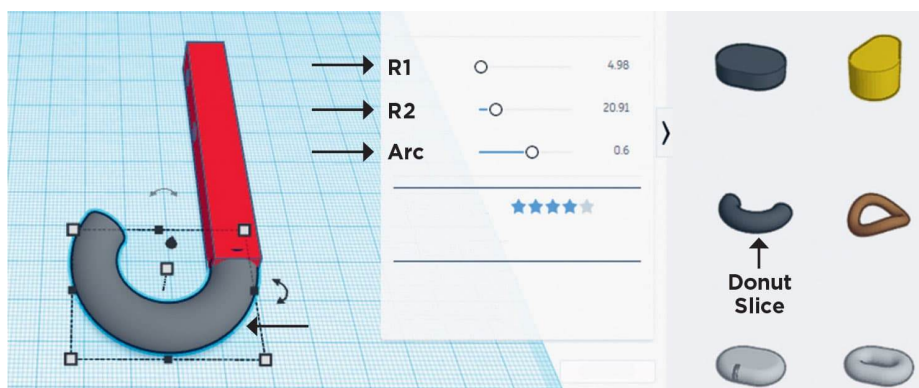

FIG. 2: The donut slice makes the curved section of the hook.
2. Drag a **Donut Slice** onto the workplane (fig. 2). The donut slice tool can be found through the **Shape Generator** drop-down menu, under **All**. Scroll through until you get to the donut slice tool. Set the radius of the donut thickness as close to 5 mm as possible. Set the arc length to slightly more than 0.5. This will ensure your coat does not fall off the hook. Set the radius of the donut itself close to 20 mm. This donut slice will be the curve of the J-shape.
3. Move the donut slice curve to merge with the stem of the J-shape as shown in fig. 2. The coat hook designed thus far will have a tip of the same width as the body, which looks different from the image of the 3D-printed tapered-tip hook shown here.